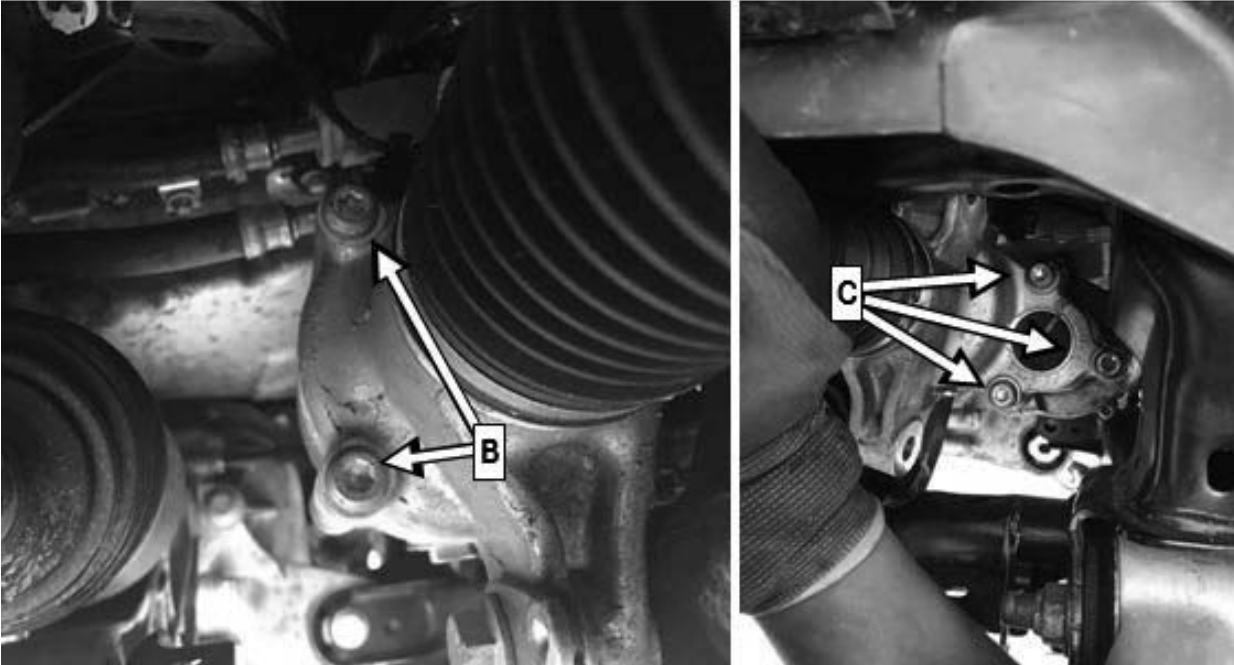

Figure 8
5. Slightly lift steering on left and right and move towards rear in front axle carrier so that the screws (**B and C**, **Figure 8**) are accessible.
6. Remove screws (**B and C, Figure 8**), making **absolutely sure** to do so **individually and one after the other**, replace with new steel screws and tighten with the specified torque incl. tightening angle.